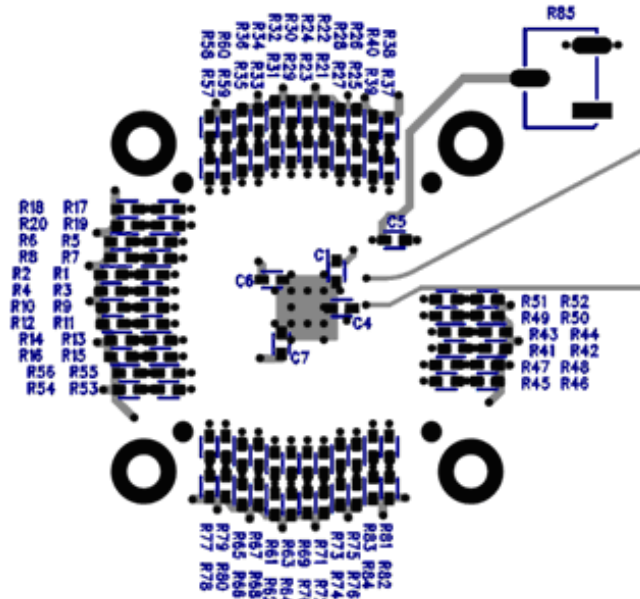

Figure 3. Back D.U.T. Area Detail
3. Back D.U.T. area detail: (See Figure 3) Odd numbered resistors R17 to R81 are populated for 1X load. Even numbered resistors are not populated. The even numbered resistors may be repopulated with 50 Ω (to GND) components to convert the board to 2X load use with 50 Ω scope input impedance loading (presents a 25 Ω parallel load to the device outputs). Even numbered “series shorting” resistors R17 to R81 are populated zero ohm value. These may be repopulated with a series resistor value to improve signal integrity. Components C1, C4, C5, C6, and C7 are 0.01 μ F bypass caps.